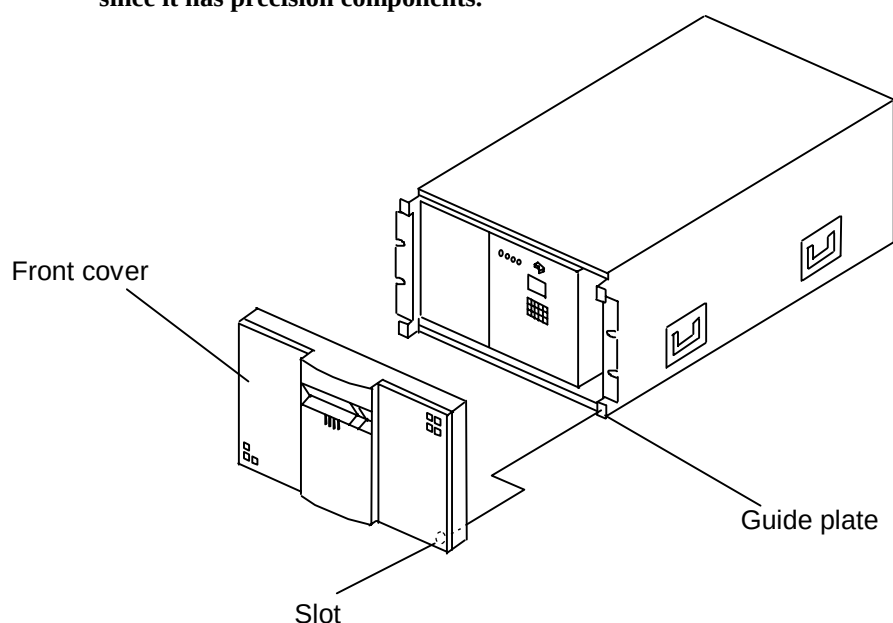

Figure 3.2.1 Attaching and Removing the Front Cover
(1) Attaching and Removing the Front Cover
- Removing procedure (See Figure 3.2.1.)
- ① Hold the grooves on both sides of the front cover and pull it toward you.
- Attaching procedure (See Figure 3.2.1.)
- ① Fit the guide plates of the main body with the slots of the front cover (four places) and press the front cover against them.